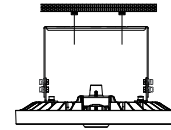
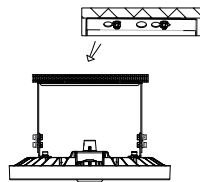

Figure 5
Figure 6
3. Align the bracket hole with screw hole (figure 5) and push the fixture to one side (figure 6) and fix it.